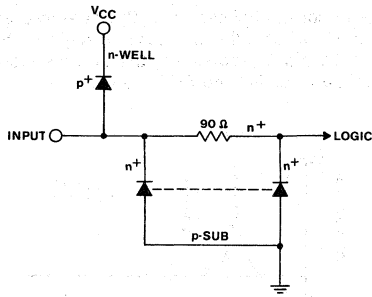
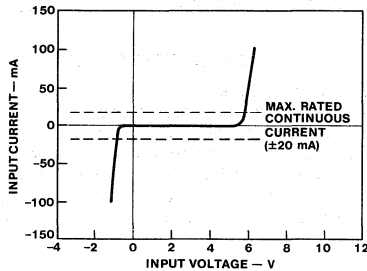

Fig. 5 - AC/ACT dual-diode input protection network.
Fig. 6 - AC/ACT input characteristic.
The inputs of the AC/ACT devices have the dual-diode clamping circuit shown in Fig. 5. This circuit serves two important needs: (1) Ringing voltages above V_{CC} and below ground caused by the RLC interface equivalent circuit are clamped to within one diode drop of V_{CC} and ground, thereby reducing EMI. (2) Electrostatic discharge (ESD) is shunted away from the gate oxide of input transistors. Between -0.5 volt and V_{CC} plus 0.5 volt (see Fig. 6), the input current is typically under the ± 1 nanoampere typical leakage of the biased input diodes. Beyond -0.5 volt and V_{CC} plus 0.5 volt, the diodes are forward biased and clamping action begins. The diodes can handle large junction currents (± 400 milliamperes for under one second). For continuous clamping action over the operating temperature range, the aluminum input metallization traces are reliably sized for ± 20 milliamperes, as shown in Fig. 6. Note that it is the aluminum traces and not the diode junctions that are the limiting circuit elements.
As mentioned, AC/ACT device inputs have a resistor-diode protection network, shown in Fig. 5, that protects the gate oxide from electrostatic discharge (ESD) damage. The network provides protection to levels greater than two kilovolts in all modes pertaining to the input, as shown in Fig. 7. This two-kilovolt figure was arrived at by the testing of devices in the ESD test circuit shown in Fig. 8 while conforming to the MIL-STD test requirements. Despite the excellent built-in ESD protection, these device could be exposed to up to 15 kilovolts if good handling practice for semiconductor ICs is not followed. Please refer to RCA ICAN 6525 and ICE 402 for more detailed guidance. One special difference between